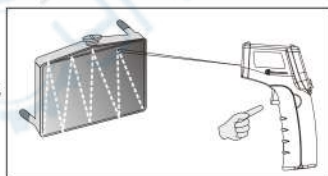

Figure 3
**2. Locating a Hot Spot : Figure 3**